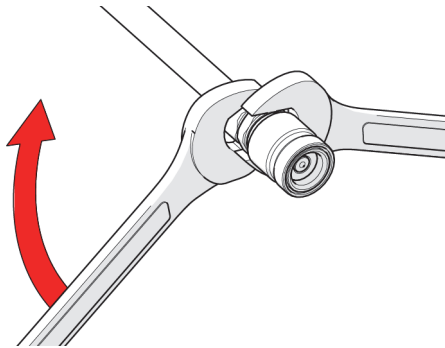

Figure 5-1 Remove quick connect fitting from hose
- (1) Remove the nut from the fitting using 15 mm and 16 mm wrenches (see Figure 5-1 on page 190).
- (2) Remove hose from the barb section of the fitting manually by rotating and prying the hose off.